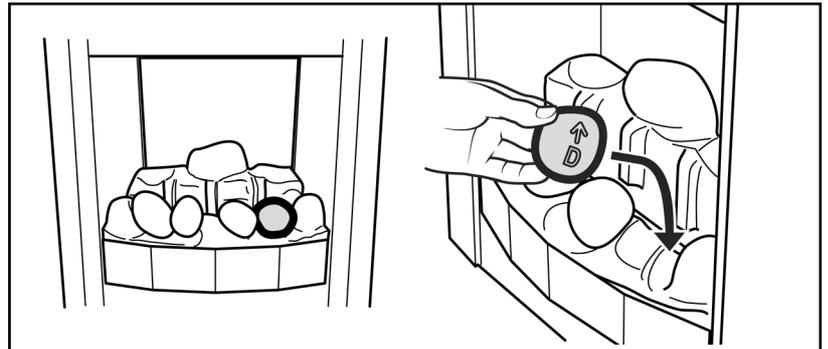

Figure 36.
7. Hold pebble 'D' upright with the arrow pointing to the top. Place pebble "D" on top of the base front pebble. It should rest against the moulded pebble to its right. (See figure 36).